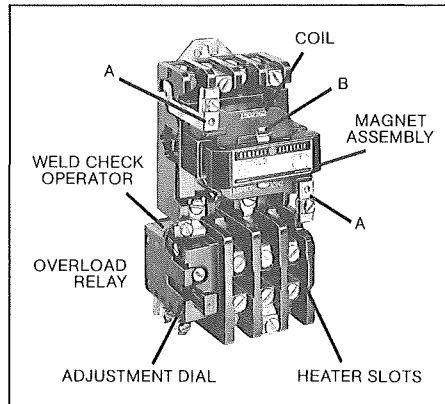

Figure 1. Typical 300-Line magnetic starter.
2. Press against coil while pulling up slightly on coil retainers (A—Figure 1) and move retainers away from coil.
4. Withdraw spring clip (B—Figure 1) and remove armature from movable arm.
Note: For starters with one or more normally closed contacts, perform steps 1 and 2 shown under *Coil Replacement*. Withdraw spring clip (B—Figure 1) and remove armature, coil, and magnet from device. Remove return spring from center of movable arm. Remove molded cover and stationary contacts before lifting movable arm from device.
5. The ultimate tripping current of the installed relay heater can be adjusted $\pm 10\%$ by using the adjustment dial, shown in Figure 1.